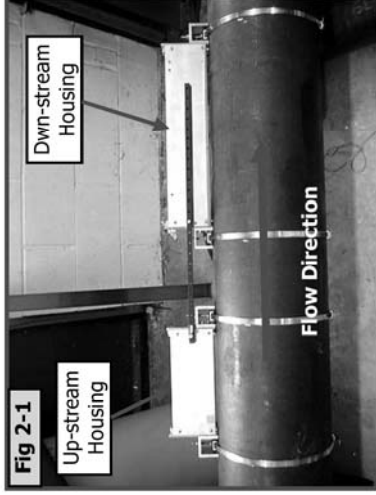

Fig 2-1
- A. Place the Enclosure assembly over the Keepers and slip into place. You may be required to align and manipulate the Keeper studs into their respective holes. Be aware of Up-stream vs. Dwn-stream. **See Fig 2-1** (Note: When mounting Direct-X Mode, maintain alignment of Keepers as outlined in step "1-D" Paragraph "D".)